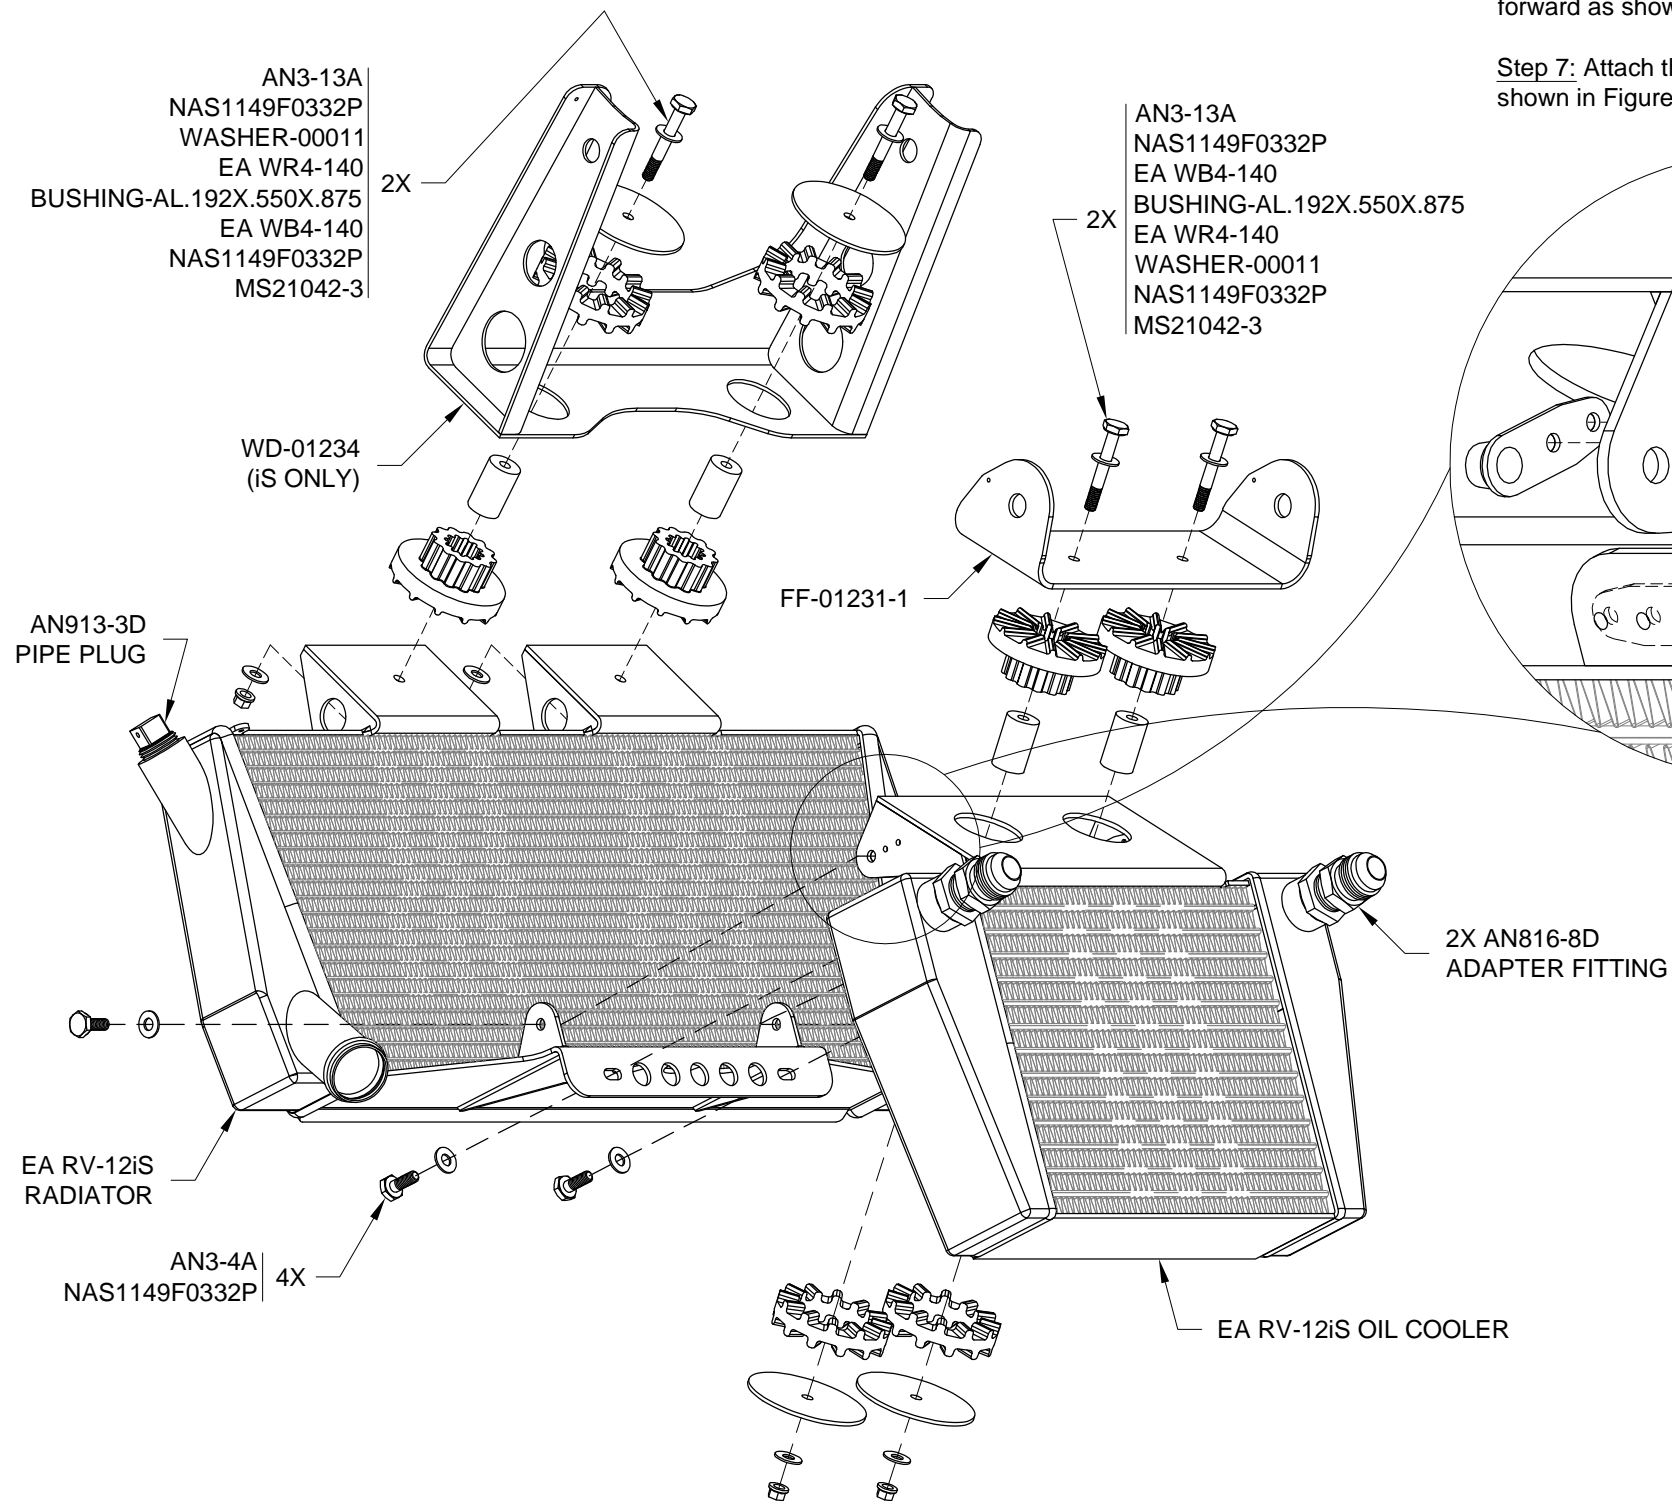

FIGURE 1: RADIATOR & OIL COOLER ASSEMBLY
Step 5: Apply pipe thread sealant to and install the two adapter fittings in the EA RV-12iS OIL COOLER as shown in Figure 1.
Step 6: Attach the FF-01231-1 to the EA RV-12iS OIL COOLER as shown in Figure 1. Ensure the safety wire holes are positioned forward as shown.
Step 7: Attach the EA RV-12iS OIL COOLER to the EA RV-12iS RADIATOR to create the Radiator and Oil Cooler Assembly as shown in Figure 1.